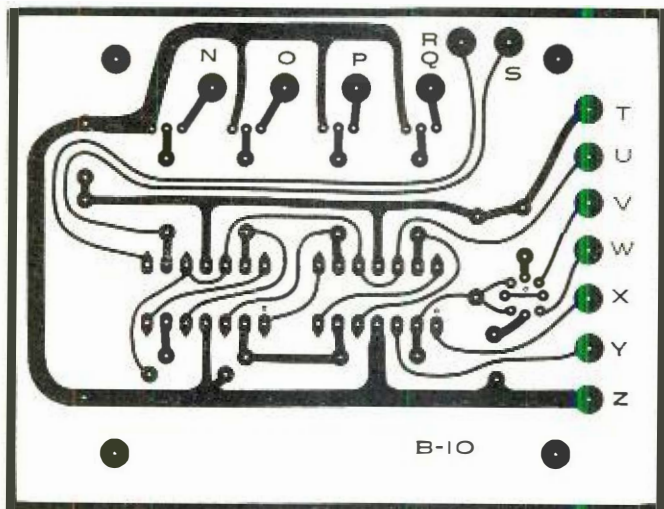

Fig. 3. In actual size printed circuit board etching guide, lettered contacts indicate off-the-board component connections.
**Construction.** A printed circuit board is a must for this project. The PC board can be purchased etched and drilled (see Parts List), or you can make your own by following the actual size etching guide provided in Fig. 3.